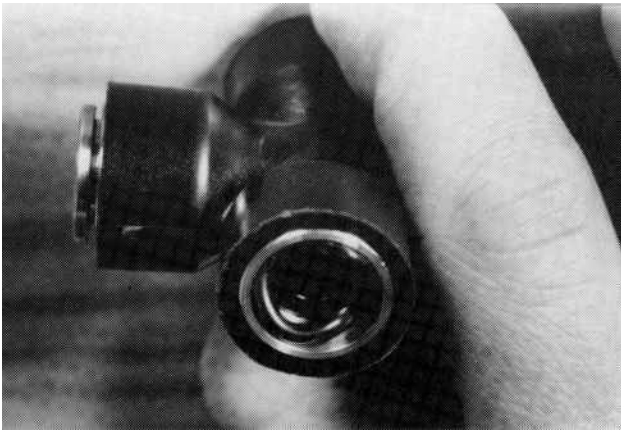

Figure 109 Use Approved Lubricant
12. Use an approved lubricant (preferably liquid detergent in water) and lubricate the new O-ring. Place the O-ring inside the top of the Quality Connect fitting sleeve as shown in Figure 109 .